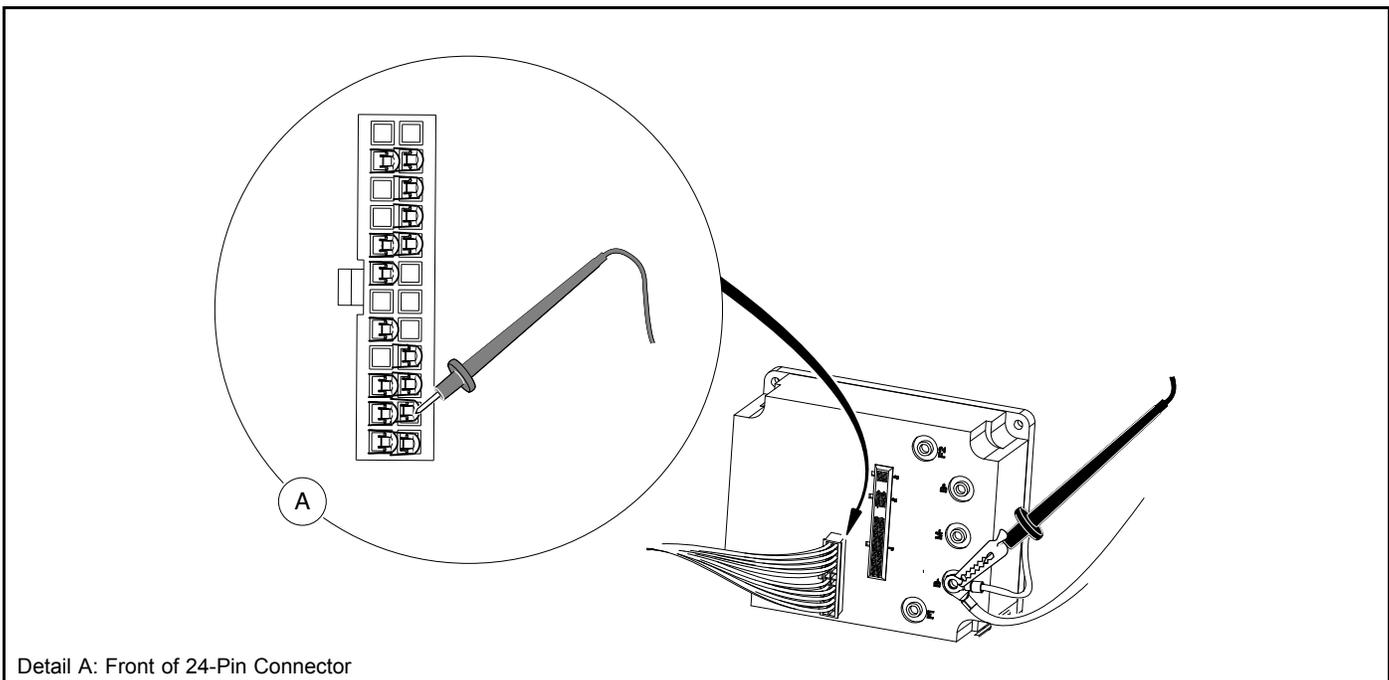

Figure 22-13 Test: Pin 2 (Light Blue Wire)
4. Set a multimeter to 200 volts DC. Insert the red (+) probe of the multimeter into pin 2 (light blue wire) of the 24-pin connector. **See following CAUTION.** Using an alligator clip, connect the black (-) probe to the B- terminal of the speed controller (**Figure 22-13, Page 22-22**).